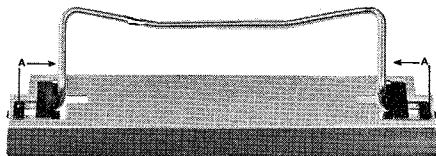

Fig. XII-3. Tilting assembly
6. Remove the tilting assembly at the bottom of each instrument by pushing the two nylon slides "A" in the direction indicated in Fig. XII-3.